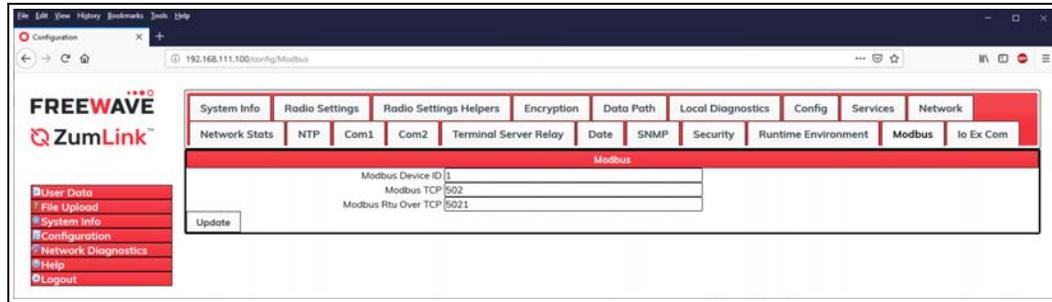

Figure 272: Modbus window
6. Click the **Modbus** tab to access the **Modbus** parameters. Figure 272